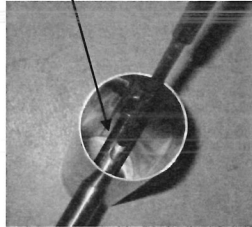

**Figure 3: Assembling the legs**
**3)** Next, slide one tube down each of the long bolts. Then drop one bolt/tube assembly into each leg, making sure to fit it through the hole on each end of the 'Y' bars. See figure 3.